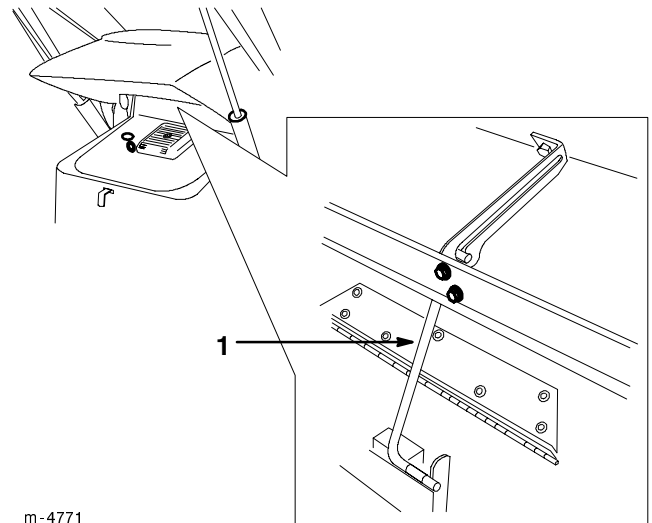

Figure 18
1. Pull up on the bar securing the hood in the open position and lower the hood (Fig. 18).